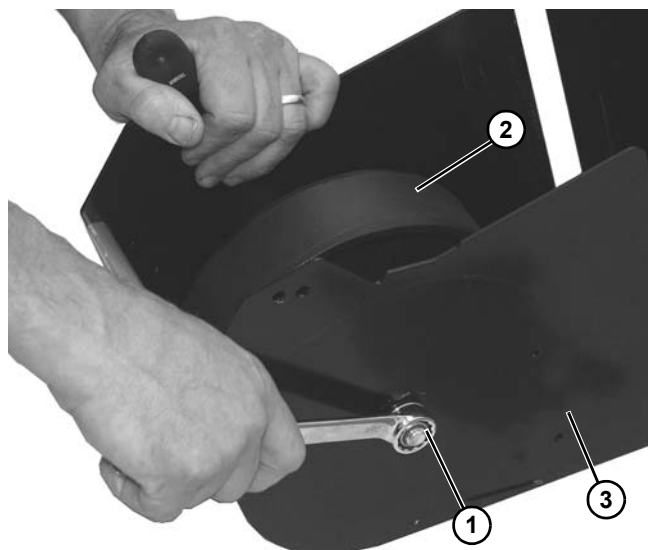

Figure 148
3. Use two wrenches to remove nut (**Figure 148, item 1**) on bolt securing wheel (**Figure 148, item 2**) onto weighted take up assembly housing (**Figure 148, item 3**).